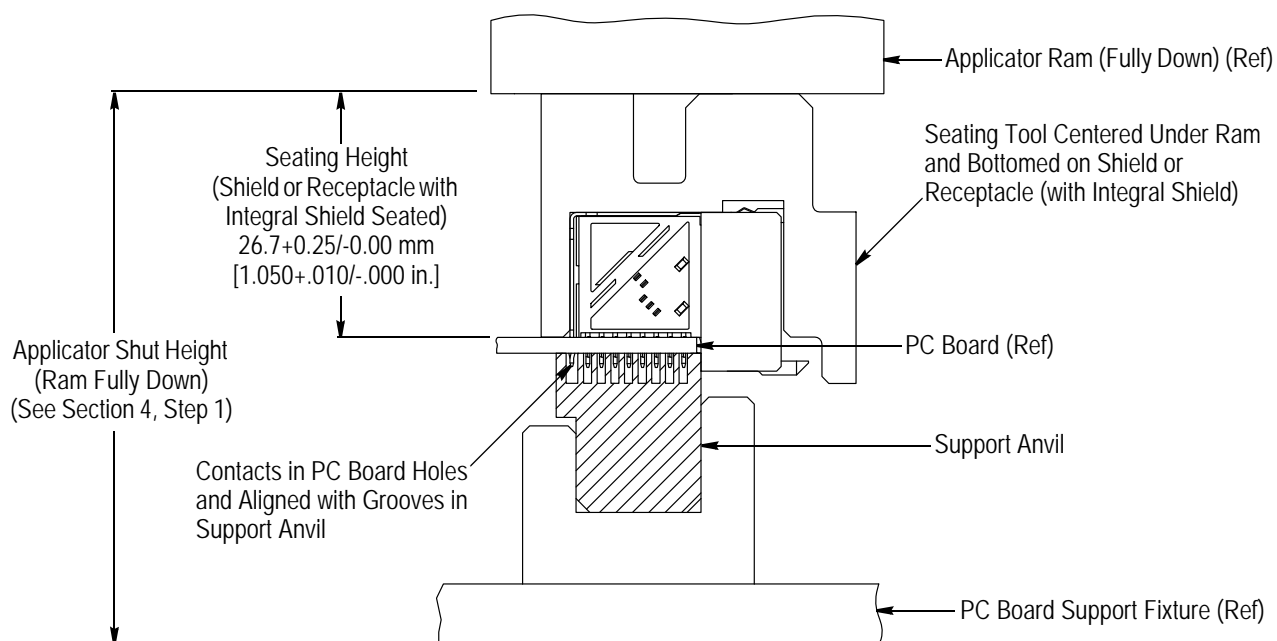

Figure 2
1. Set the seating height to the dimension shown in Figure 2 (machine shut height will equal the seating height *plus* the combined thickness of the pc board and pc board support fixture).
3. Position the shield or receptacle (with integral shield) onto the pc board so that the contacts are properly aligned to the pc board and the support anvil. See Figure 2.
7. Cycle the ram according to instructions for the application tooling. Check the assembly for proper seating using the requirements in Figure 2.